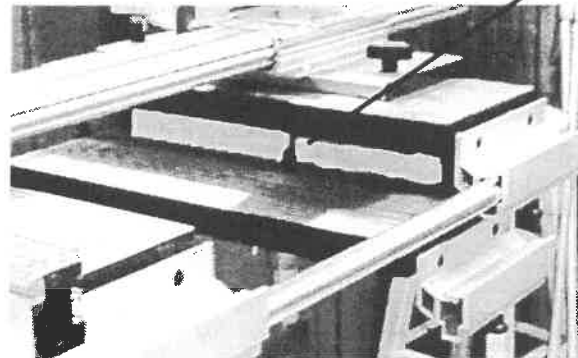

Figure 2
3. Screw the enclosed foot (4) into the hole.
5. See figure 2 for optional setup using the foot instead of the telescoping legs. Location of Foot